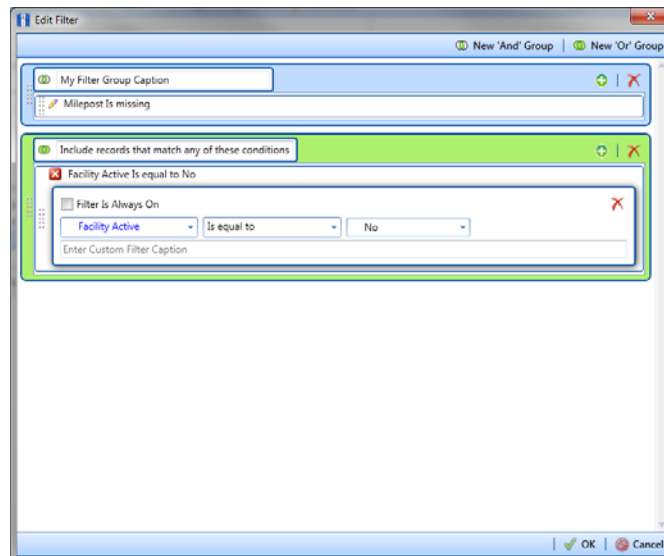

Figure 10-18. New 'Or' Filter Group
- a Click **+** **New 'Or' Group** to open a filter properties group box (Figure 10-18, page 472).